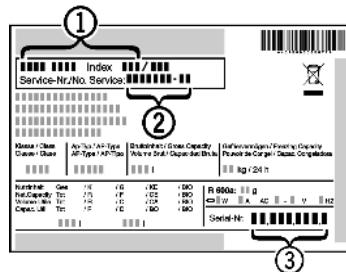

Fig. 20
- Notify a qualified service provider, specifying the fault, appliance designation Fig. 20 (1), service no. Fig. 20 (2) and serial Fig. 20 (3) no.